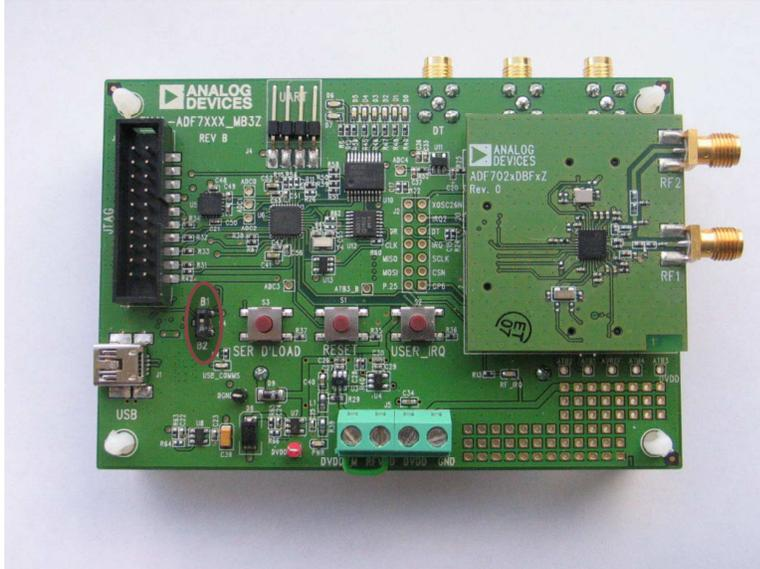
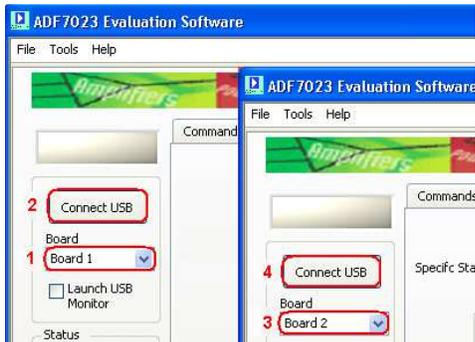

Figure 14
Figure 15
Ensure that **Switch 4** is in the correct position before connecting to the PC as shown in Figure 14.
- To set the first board as “BOARD 1” (Figure 15) on the Software set the switch shown in Figure 14 to “B1”
- To set the second board as “BOARD 2” (Figure 15) on the Software set the switch shown in Figure 14 to “B2”